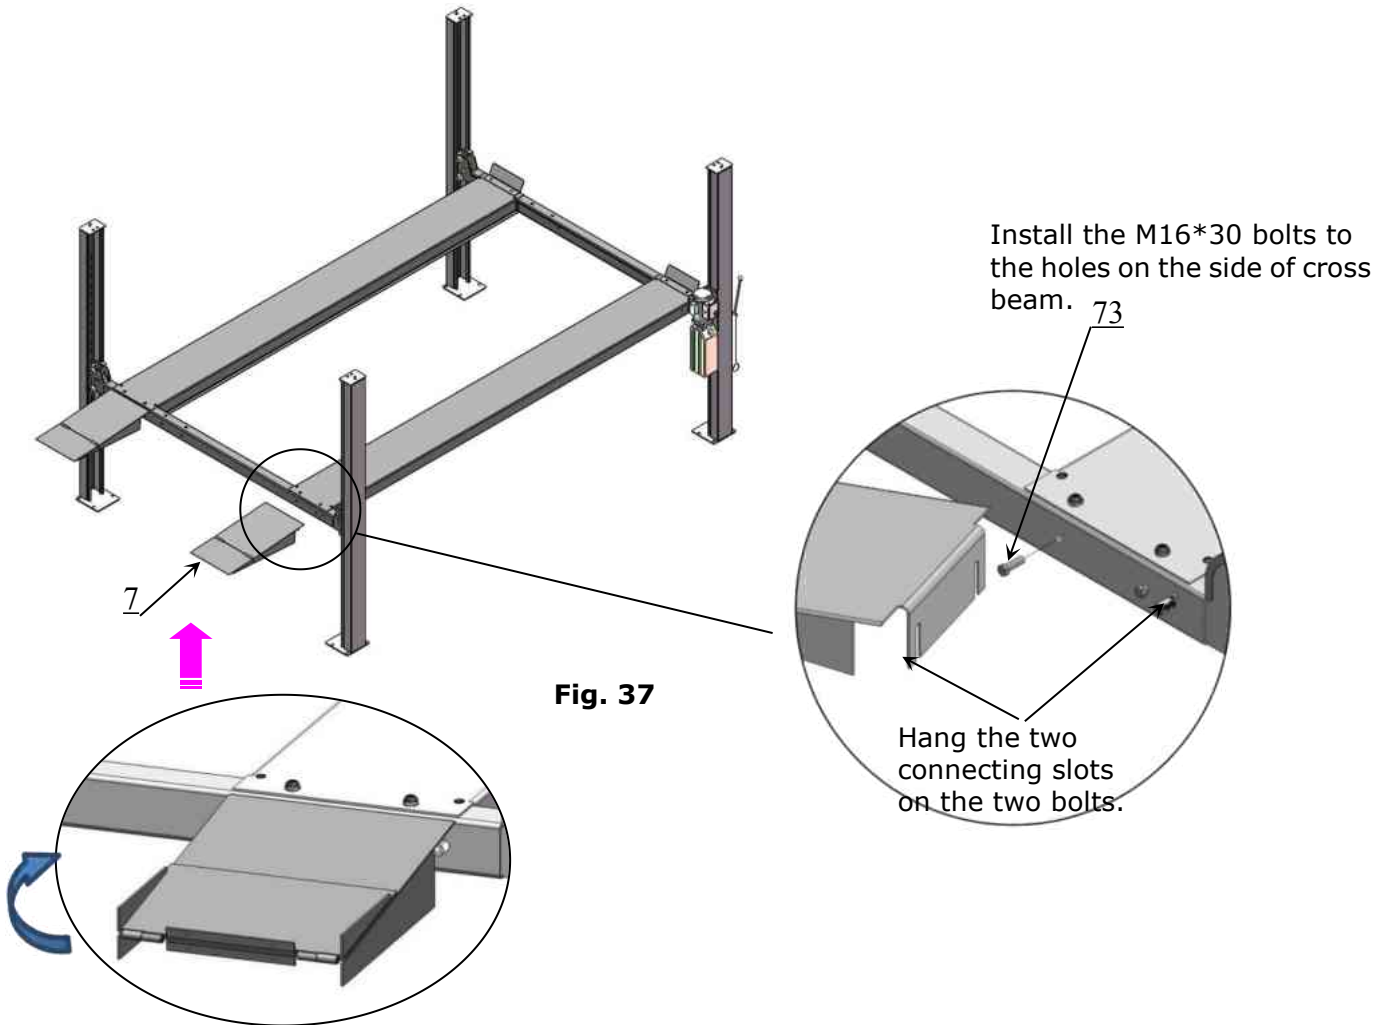

**Fig. 36**
3. Use the prescribed rotary hammer drill, drill all the anchor holes and install the anchor bolts and tighten all nuts. (See Fig. 36)